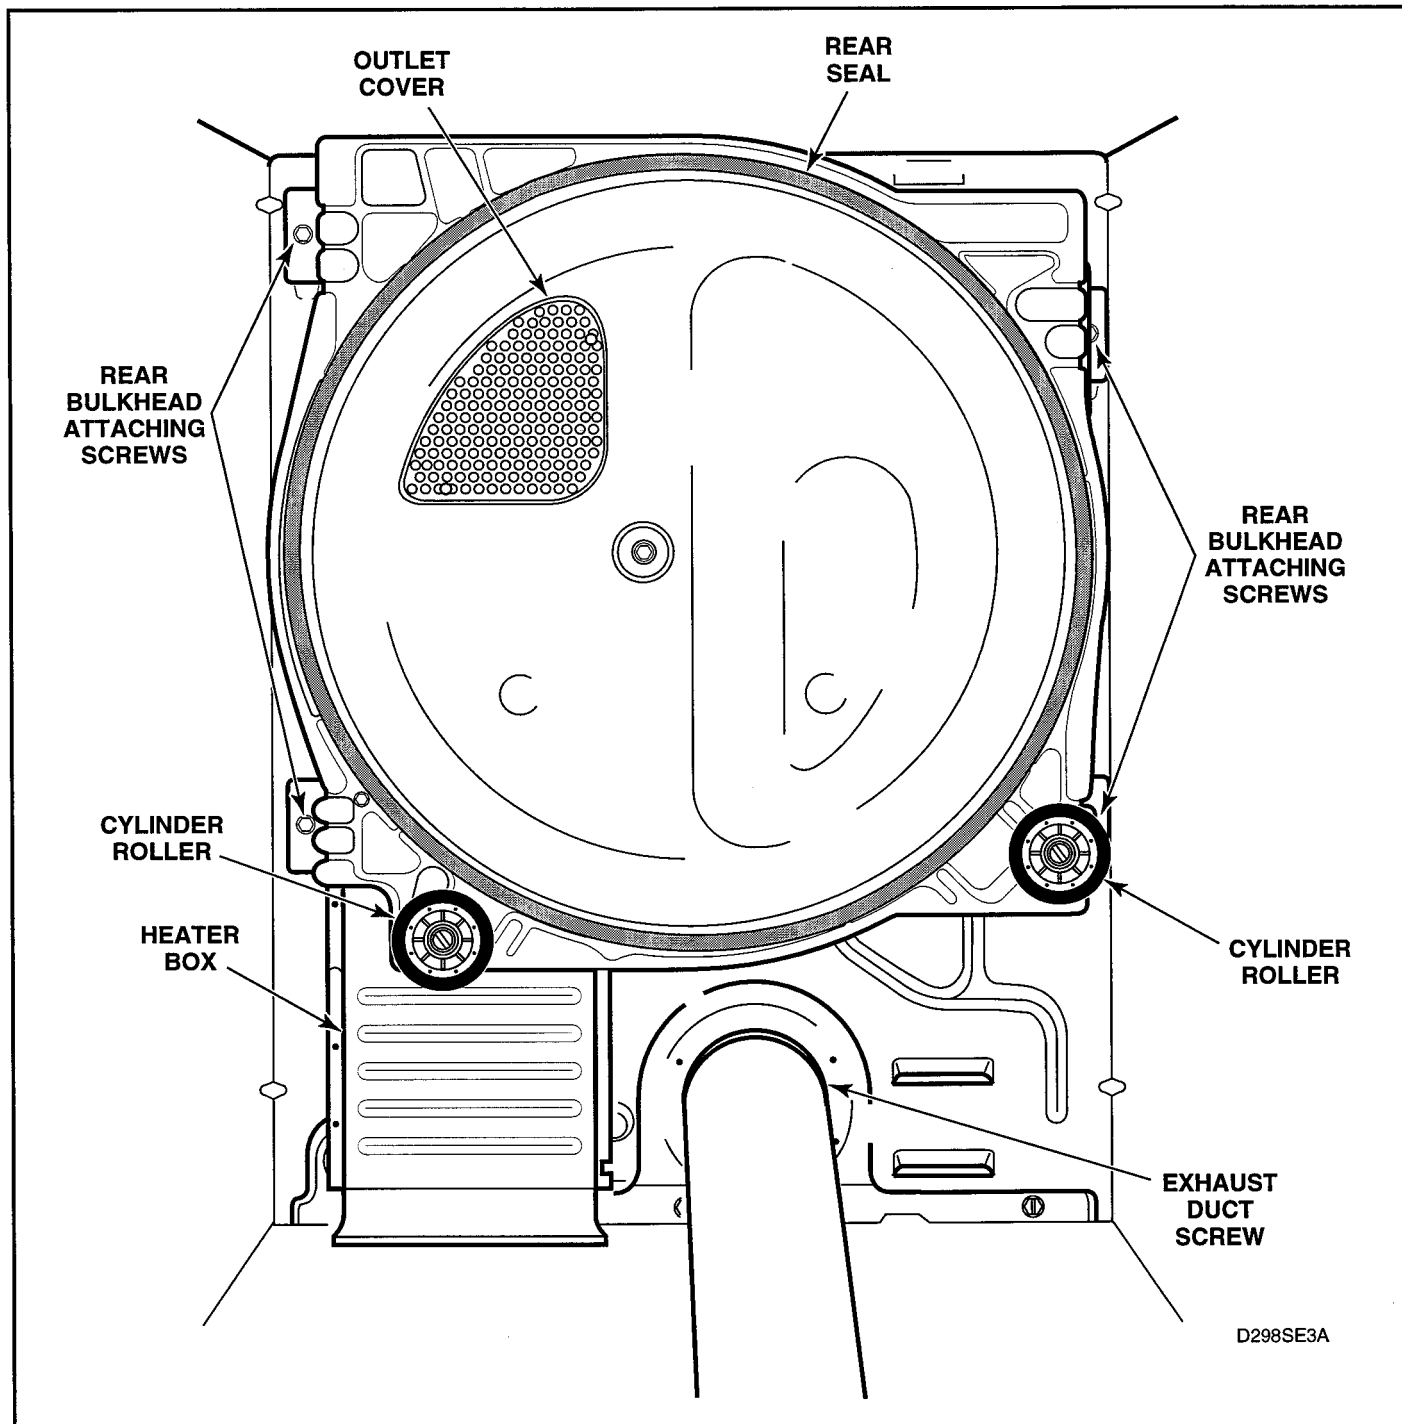

Figure 5-29
- j. Pull rear cylinder seal from flanged edge of bulkhead. See figure 5-29.
- Open door and remove two screws (if present) holding outlet cover to rear bulkhead. See figure 5-29.
- k. While supporting bulkhead, remove the four screws holding rear bulkhead to dryer cabinet, then lift complete assembly out of dryer. See figure 5-29.